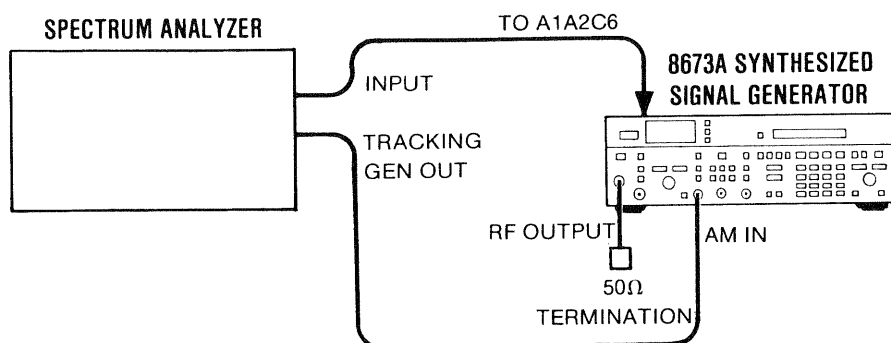

Figure 5-27. AM Bandwidth Adjustment Test Setup
1. Connect the equipment as shown in Figure 5-27.